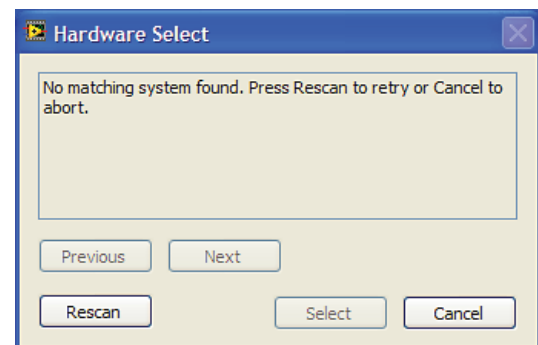

Figure 15. Connectivity Error Alert
2. If the AD7492 evaluation system is not connected to the USB port via the EVAL-SDP-CB1Z when the software is launched, a connectivity error displays (see Figure 15). Connect the evaluation board to the USB port of the PC, wait a few seconds, click **Rescan**, and follow the instructions.